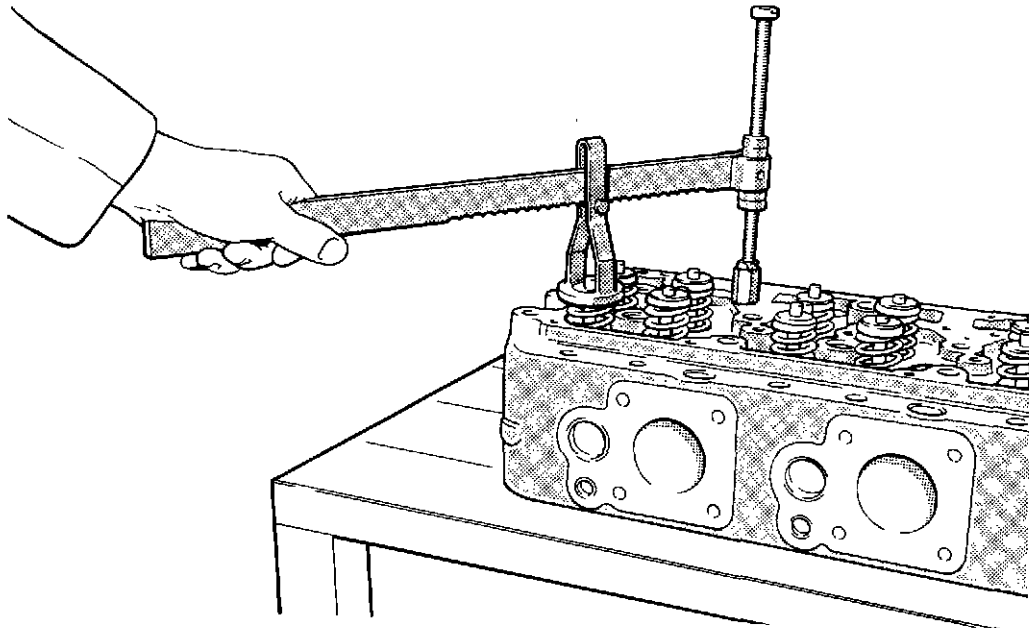

Fig. 2 Valve spring compressor
- 21 Position the stirrup on the arm, directly over one of the valve assemblies (fig. 2), compress the valve spring and lift out the collets. Release the pressure on the spring and remove the upper spring seat or rotator, followed by the spring and the lower spring seat.